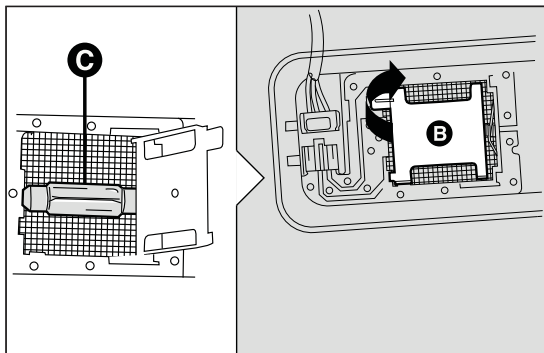

fig. 164
- ❑ open the lid B fig. 164 as shown;
- ❑ remove bulb C fig. 164 by releasing it from the side contacts, then insert the new bulb and make sure it is correctly clamped between these contacts;